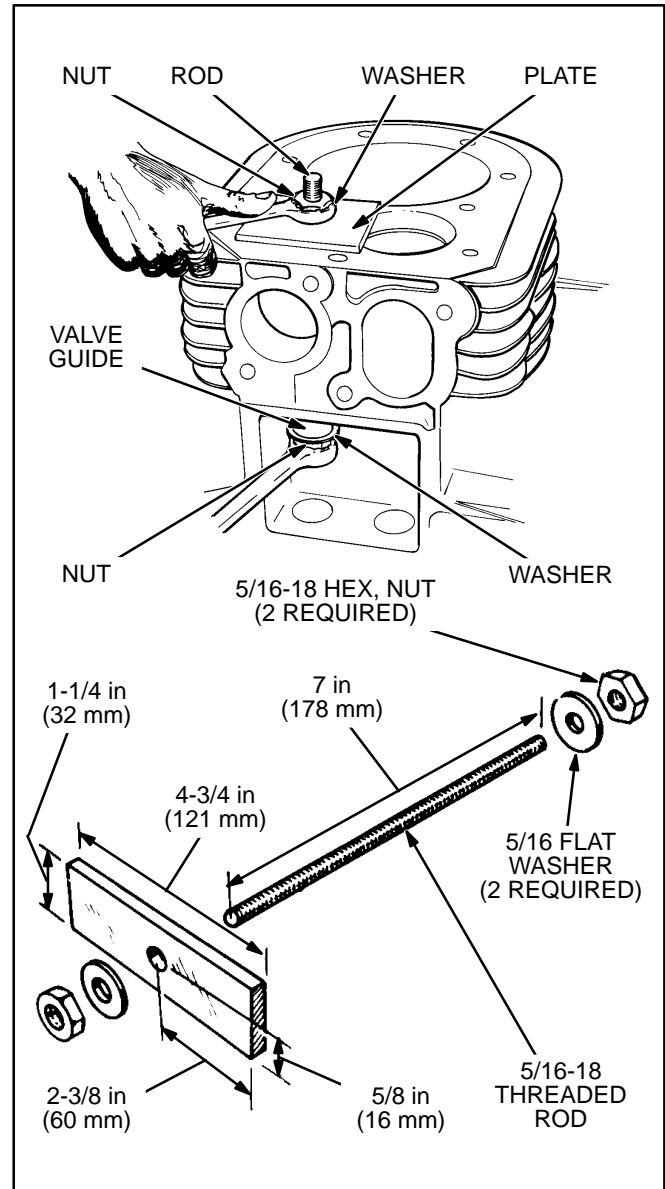

FIGURE 71. SUGGESTED TOOL FOR INSTALLING THE VALVE GUIDES
3. Place the guide, notch up, in the cylinder block and press it in until the shoulder of the guide rests against the cylinder block (Figure 71).